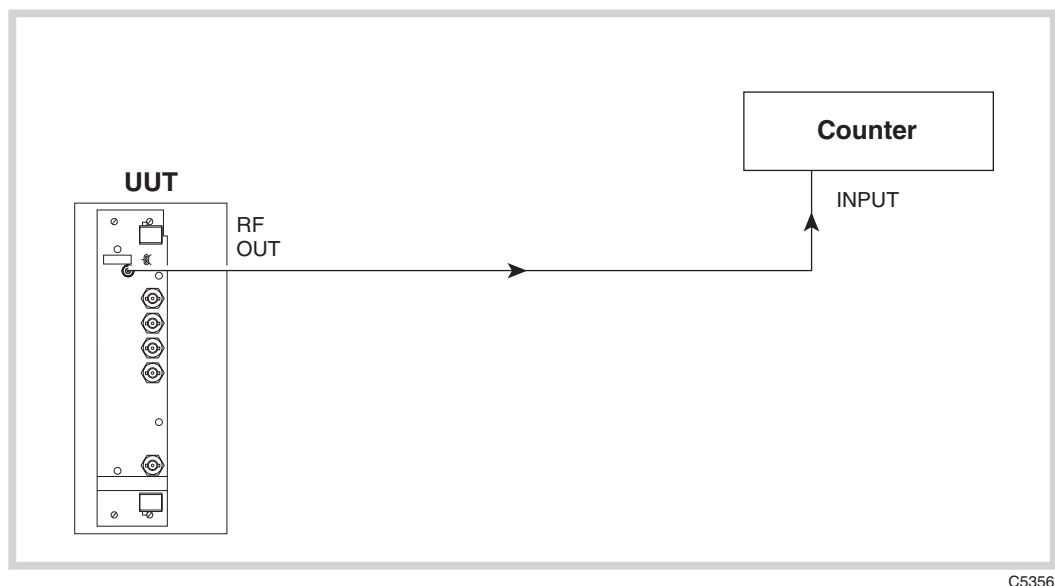

Fig. 5-3 Carrier frequency accuracy test set-up
- (1) Connect the test equipment as shown in Fig. 5-3.
- (2) Connect the internal frequency standard from the UUT to the external standard input on the counter.
- (3) On the UUT set: